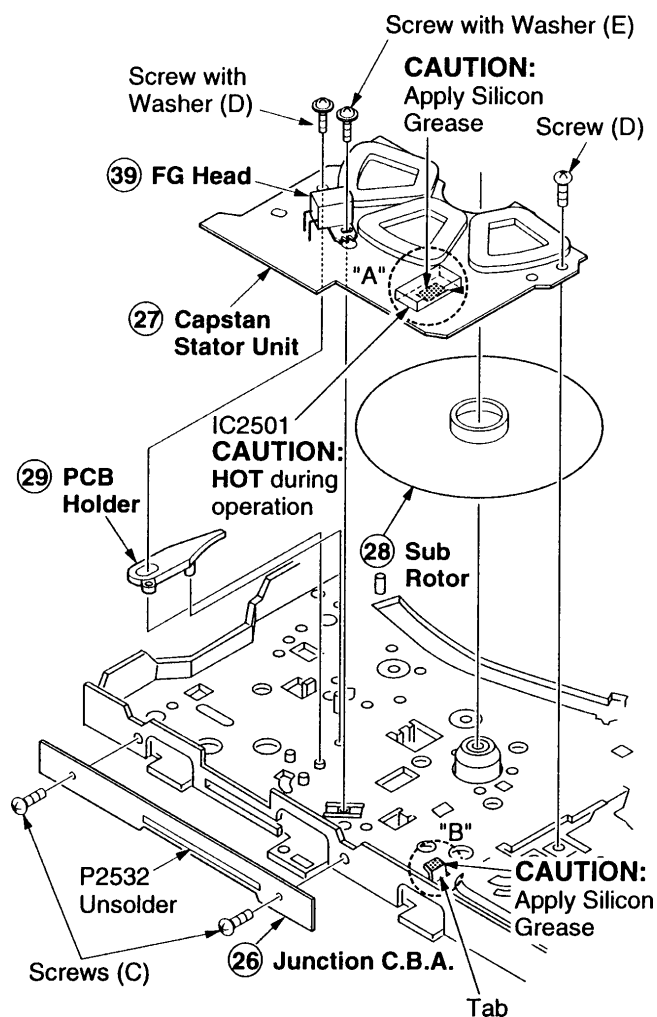

Fig. 19 - Junction Circuit Board/Capstan Stator Unit/Sub Rotor/PCB Holder Removal
Junction Circuit Board/Capstan Stator Unit/Sub Rotor/PCB Holder Removal (Figs 19, 20)
1. Remove two (2) screws (C) (Fig. 19).
3. Remove one (1) screw (D) and two (2) screws with washers (D) and (E).